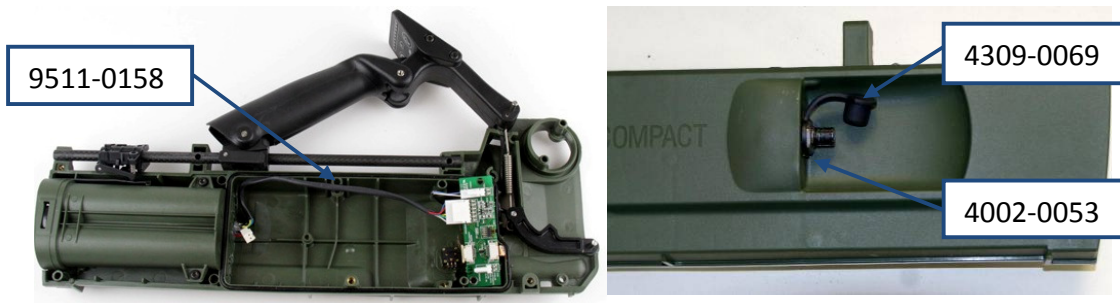

Figure 97: Wiring Loom Earset Kit
a. The wiring loom earset is a line replaceable unit and is available as a service kit, 3004-0058 Wiring Loom Earset Kit which includes associated parts. Figure 97 illustrates the major parts of the wiring loom earset.